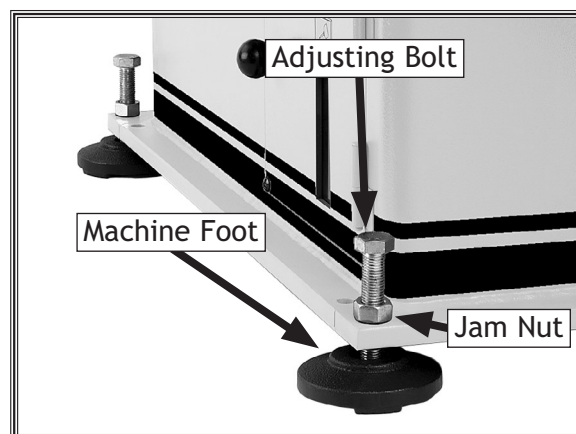

Figure 11. Cast iron machine feet installed.
3. Loosen the jam nuts (see **Figure 11**), and adjust the leveling bolts until the saw table is level front-to-front and side-to-side.